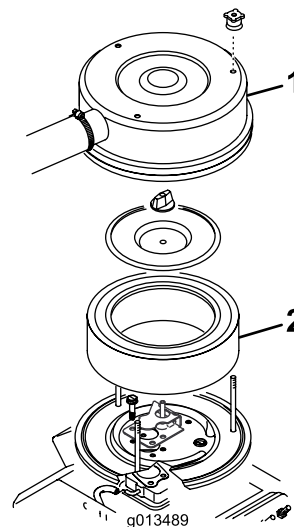

Figure 17
3. Remove the knobs and air cleaner cover (Figure 17).